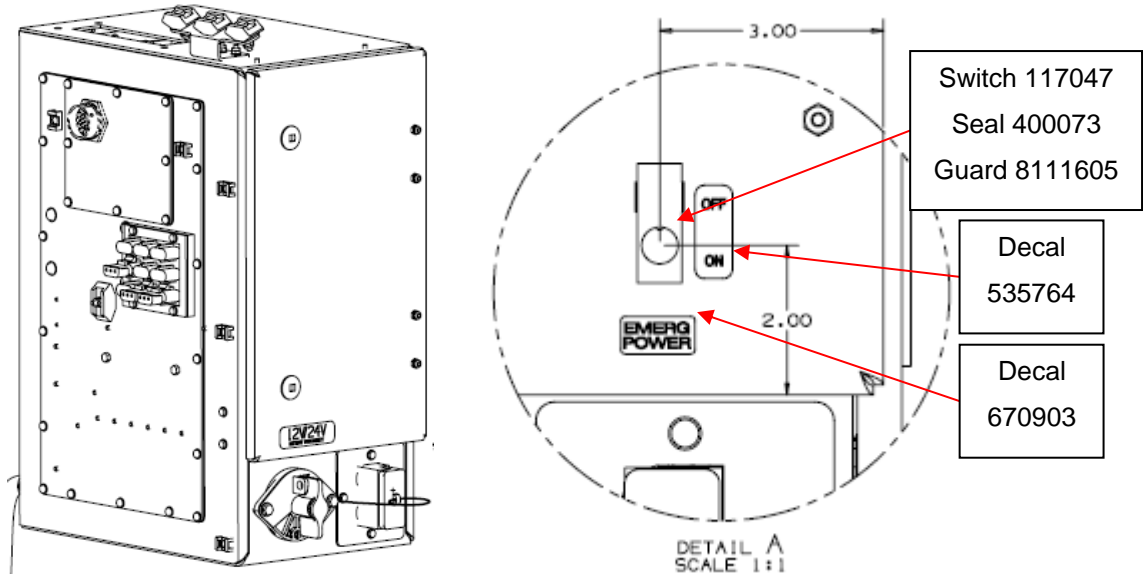

Figure 1: Emergency Power Switch Location
3. Drill a hole 0.5” in diameter into the front door of the fuse box for the new emergency power switch. Exact location shown in Figure 1 below.